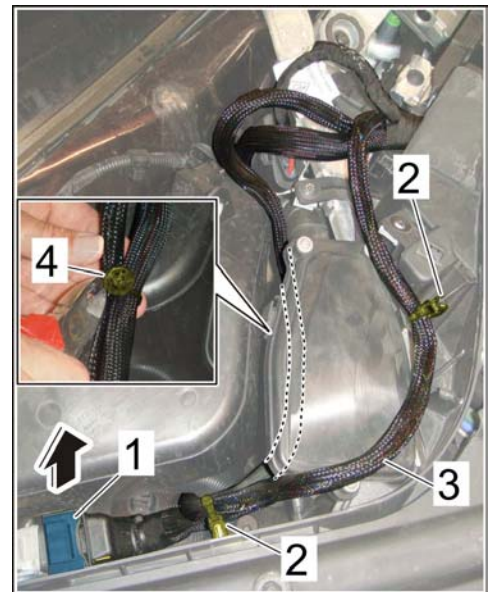

Figure 1
- 3.1 Release locking mechanism for the upper connector on the DME control unit ⇒ *Figure 1 -1-* (⇒ *Figure 1 -arrow-*) and pull the connector off the DME control unit.
- 3.2 Loosen both retaining clips ⇒ *Figure 1 -2-* for the main wire harness ⇒ *Figure 1 -3-* at the plenum panel.
- 3.3 Remove line clip ⇒ *Figure 1 -4-* underneath the relay carrier.